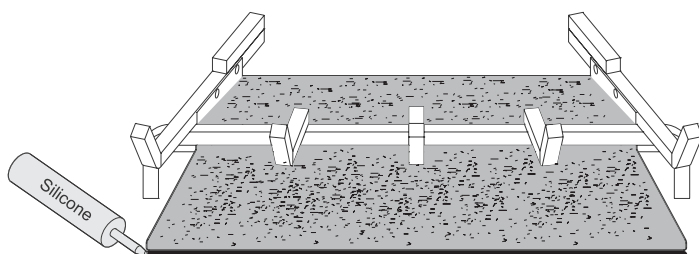

Figure 6
Add a bead of silicon around outer edge of burner pan. See Figure 6.
1. Pour the provided sand (Note: use rockwool mix for Liquid Propane appliances) over the entire burner, filling the burner pan. The sand (rockwool mix) should follow the slope of the burner pan, covering the burner completely. See Figure 6.